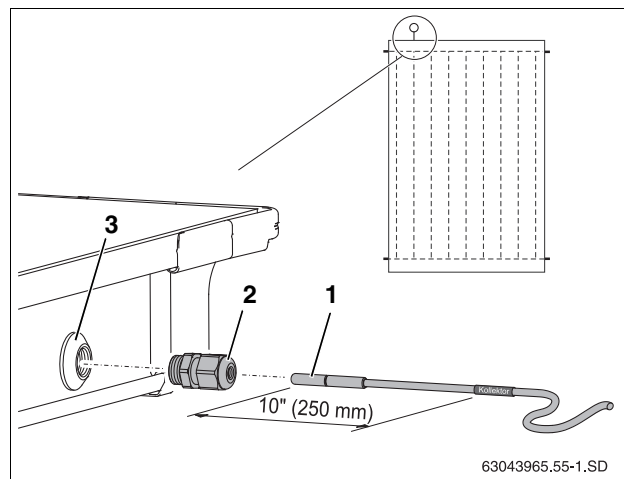

Fig. 54 Inserting the collector sensor into the collector
For a continuously troublefree reading of the absorber temperature, the collector sensor (Fig. 54, [1]) must be completely inserted into the sensor well as far as it will go (approx. 10 inches (250 mm)).
- ▶ Using the collector sensor or screwdriver, puncture the membrane of the sensor well (Fig. 54, [3]).
- ▶ Screw strain relief (Fig. 54, [2]) into sensor bushing.
- ▶ Tighten the strain relief (Fig. 54, [2]), to secure the sensor in place.
If the membrane (Fig. 54, [3]) on the wrong collector was accidentally punctured, it can be resealed using the plug from the connection kit. First remove the nut in the sensor well using the strain relief (Fig. 54, [2]).